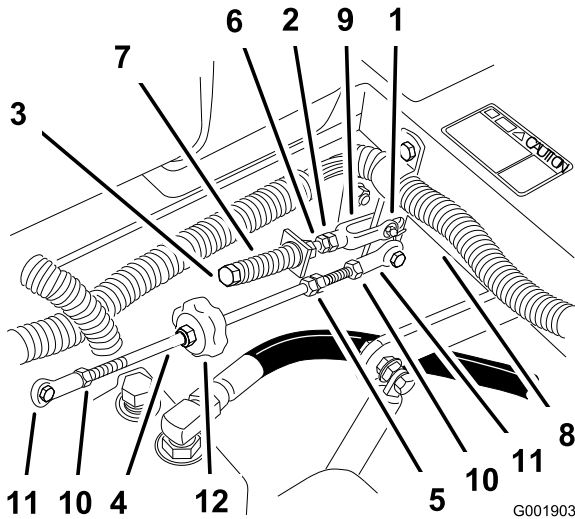

Figure 74
- If adjustment is needed, loosen the nut and jam nut against the yoke (Figure 74).
- Apply slight rearward pressure on the motion control lever, turn the head of the adjustment bolt in the appropriate direction until the control lever is centered in the neutral lock position (Figure 74).
- Tighten the nut and jam nut (Figure 74).